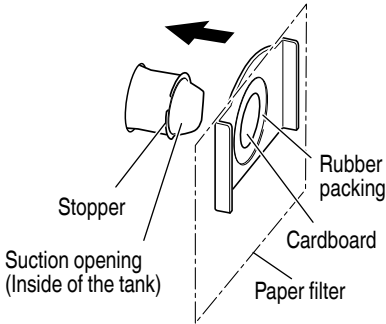

Fig. 29
- (3) Match the suction hole in the paper filter with the suction opening of the appliance. Insert the filter in the direction of the arrow as shown in the illustration, so that the cardboard of the paper filter goes past the stopper on the suction opening. (Fig. 29)